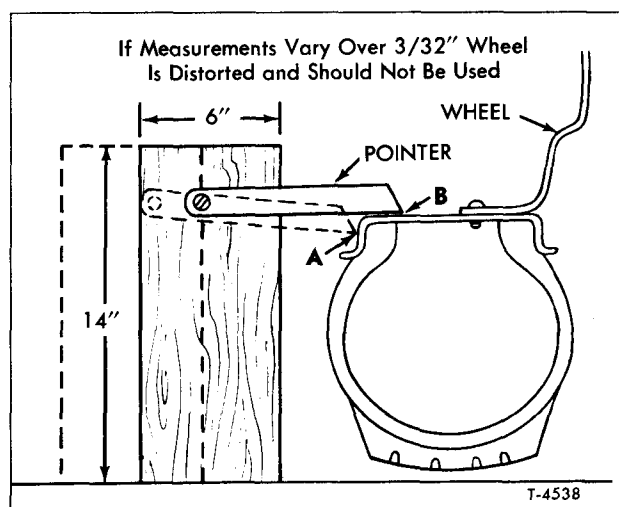

Figure 5—Method of Checking for Distorted Wheels
Do not use wheels with bent rims. The continued use of such wheels will result in excessive tire wear and, if wheel is mounted on front of vehicle, difficulty in steering will be experienced. Wheels that are thought to be distorted may be checked as follows, referring to typical diagram (fig. 5) for checking points.
a height in relation to rim surfaces as shown in figure 5. Tighten screw sufficiently so pointer will hold its position when adjusted.
3. Position pointer at crown of rim ("A," fig. 5). Slowly revolve wheel and move pointer toward wheel until it contacts wheel at nearest point.
5. Place point of marker at inside of wheel at point "B," figure 5. Follow the above procedure to check radial run-out (out-of-round condition) this should not exceed $3/32$ ". If wheel is distorted beyond these dimensions it should be replaced.